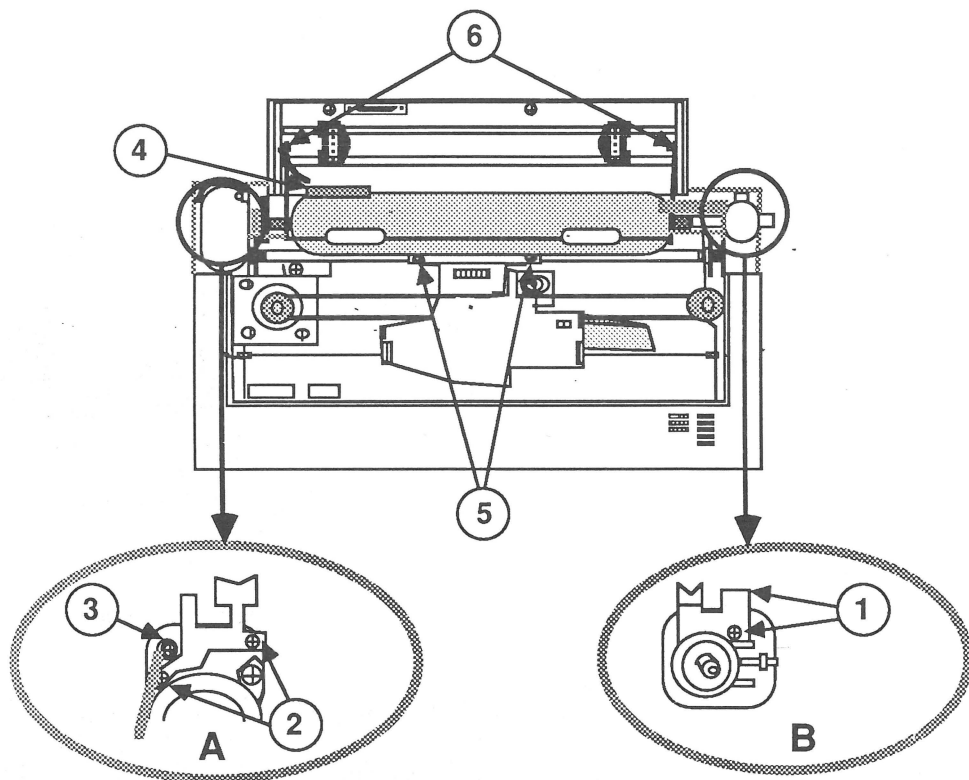

FIGURE 40
5. Position the metal plate on the right side of the platen and replace the screw that holds it (Figure 40, #1).
6. Position the metal plate on the left side of the platen and replace the two screws that hold it (Figure 40, #2).
7. Position the grounding strap and replace the screw that holds it (Figure 40, #3).
8. Locate the small black grounding wire. Solder the wire to the metal plate on the paper empty frame, or replace the screw (Figure 40, #4).
9. Position the paper guide and replace the two screws that hold it (Figure 40, #5).
10. Replace the paper bail assembly (Figure 40, #6).